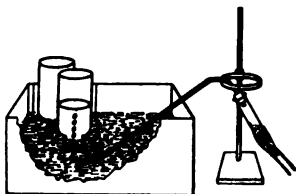

Fig. 14.
1. (Rule 16.) Fill a pneumatic trough (p.t.) with water to 1 or 2cm above the shelf, and put it on one side of the sink. Next, place a ring stand (r.s.) at the end of the p.t. near a lamp (Fig. 14).
5. Light a Bunsen jet and, holding the lamp in the hand, heat the mixture in the t.t. (Fig. 14). Do not heat the t.t. too long in one place or it will melt, but move the flame and take it away for a few seconds after the gas begins to be liberated freely.